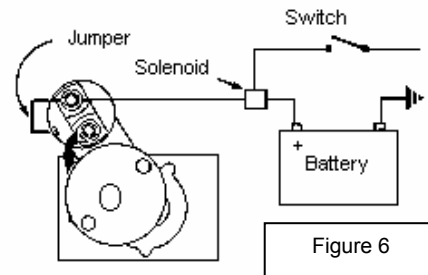

Figure 6
3. Connect another 12 to 14-gauge wire from the remote solenoid to the starter switch. (See figure 6)